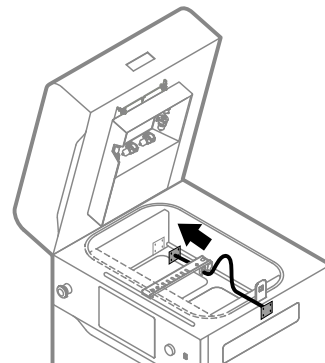

Fig. 13.23 Installing a new Recoater cord.
29. Wind the Recoater cord on the roller tracing wheel (fig. 13.23).